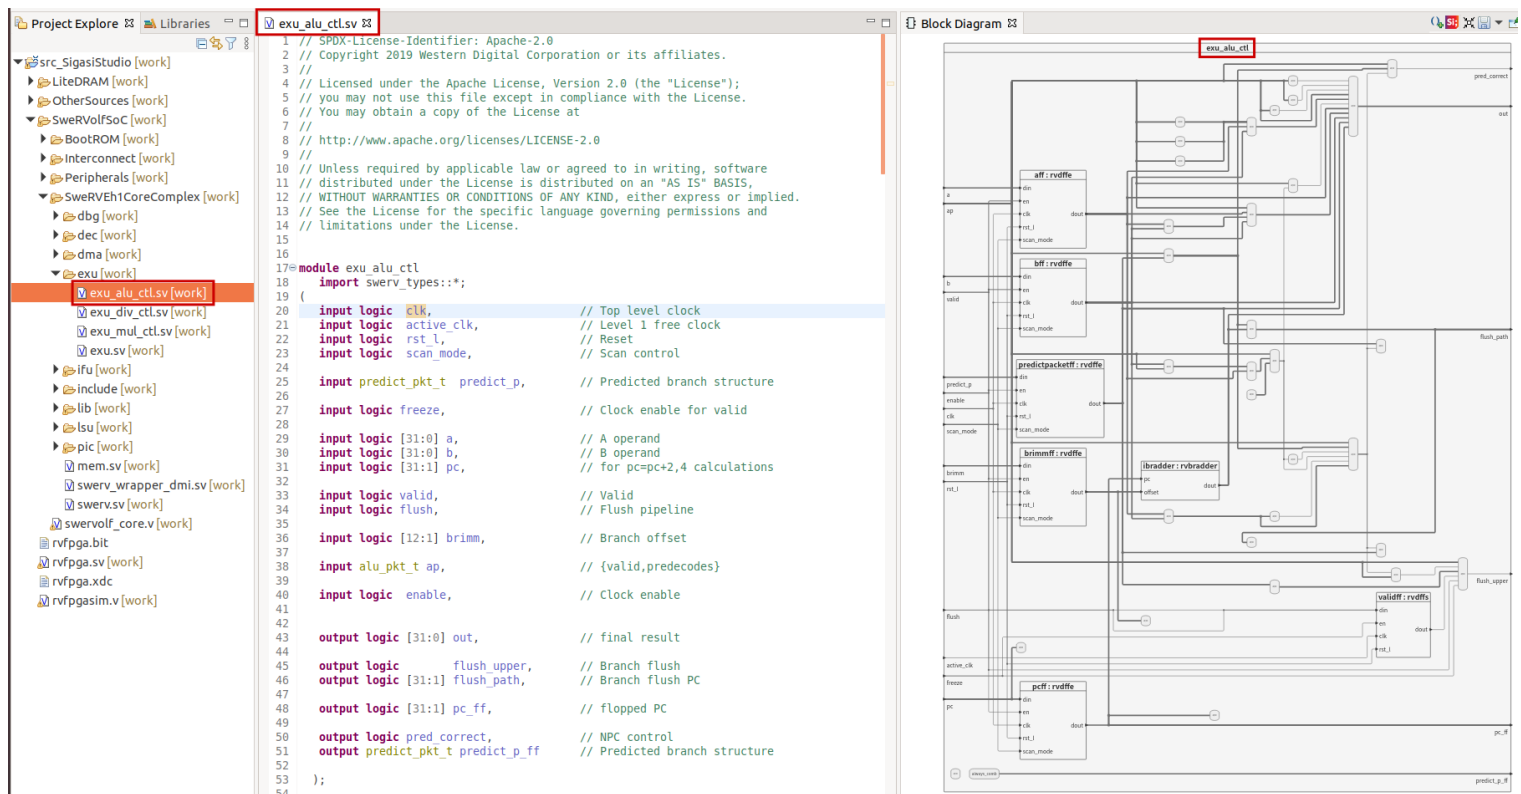

Figure 8. File `exu_alu_ctl.v`: Verilog Code and Block Diagram
2. In this lab we analyse arithmetic and logical instructions. These instructions are executed in the ALU, which is implemented inside module **exu_alu_ctl**. Open that module by double-clicking on it on the Project Explore window. You should see what we show in Figure 8.